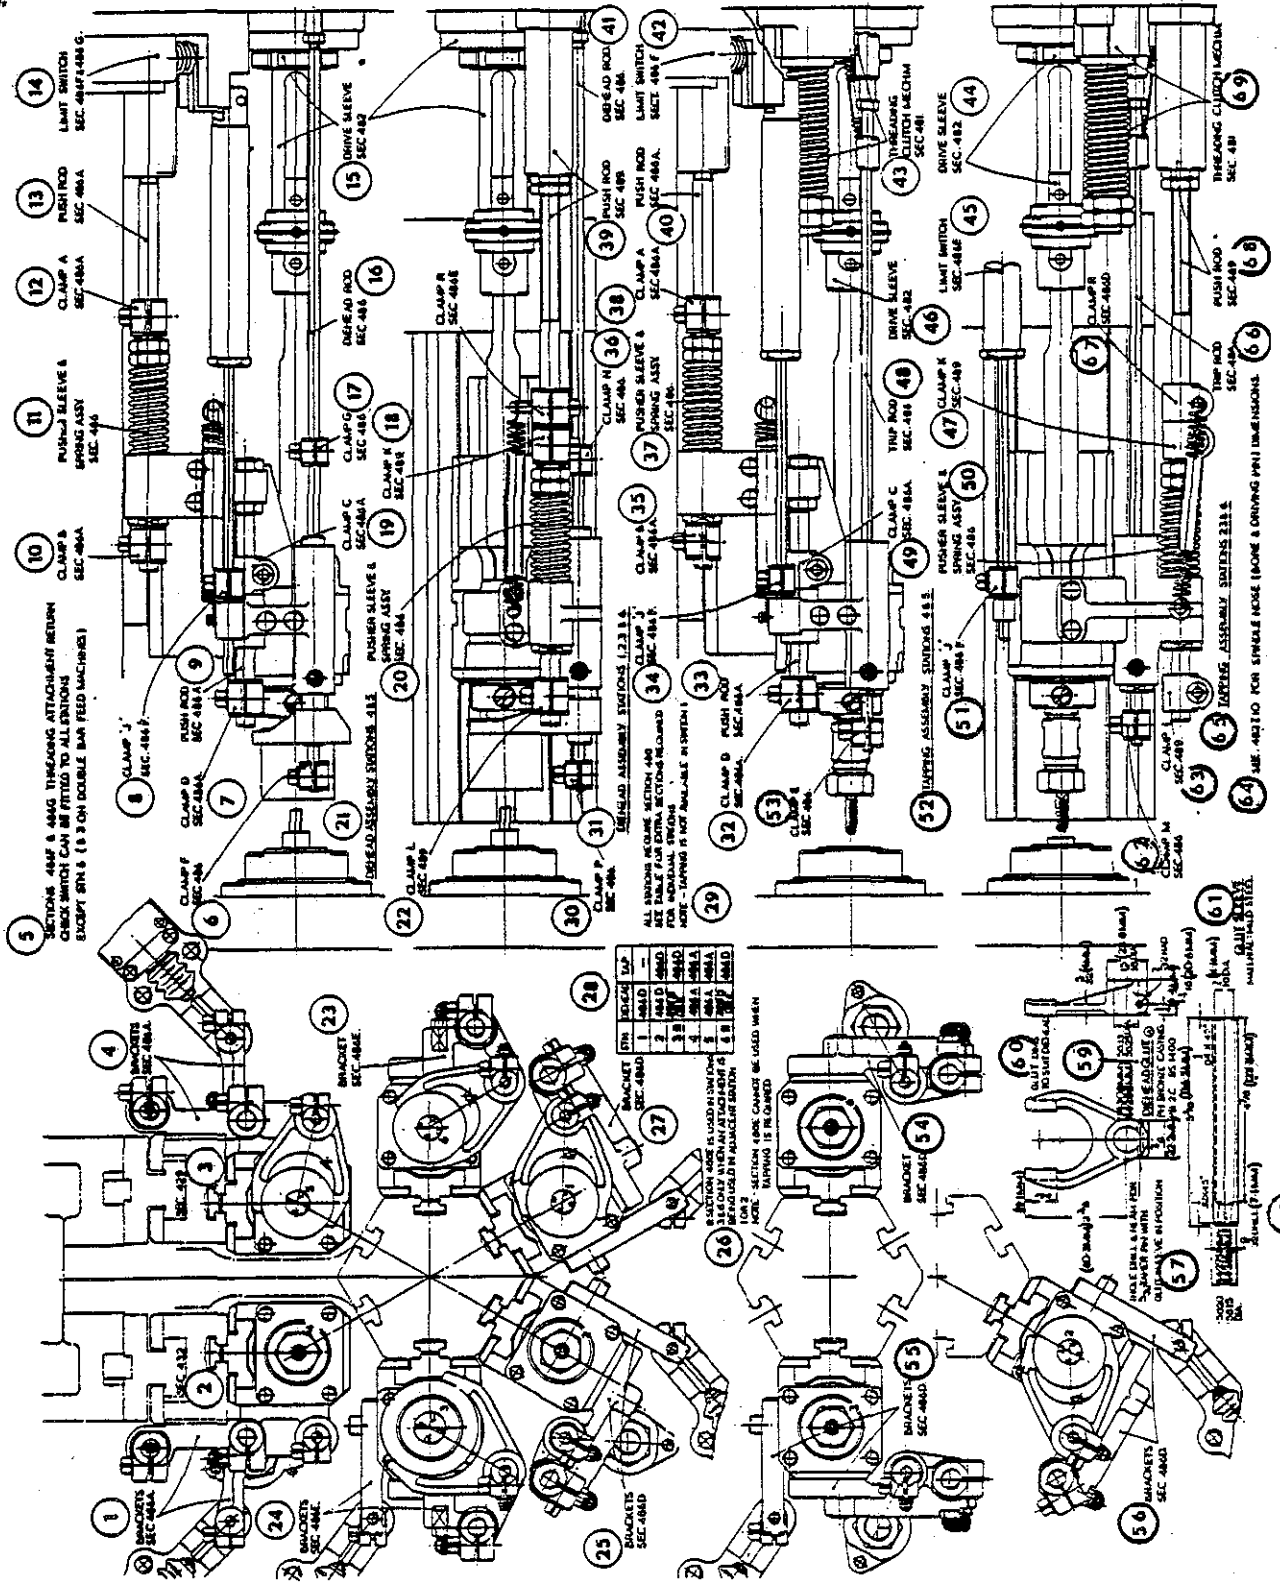

Fig. 47 486 Z 10
IN 4th and 5th STATIONS the trip rods and push rods are fitted as shown in Fig.47; a self opening diehead and floating tap assembly are shown in the illustration.
IN 1st, 2nd, 3rd and 6th STATIONS the trip rods are fitted as shown on Fig.47.
- Key to Fig.47
The following should be read in conjunction with the threading attachment diagrams Fig.47 FOR SELF OPENING DIEHEADS.
The following should be read in conjunction with diagrams Fig.47 FOR SOLID TAPS OR BUTTON DIES.
The following should be read in conjunction with the threading attachment diagrams Fig.47 FOR SELF OPENING DIEHEADS
The following should be read in conjunction with the threading attachment diagrams Fig.47 FOR SOLID TAPS OR BUTTON DIES
Never handwind backwards without either relieving the clamp "A" (see Fig.47) so that the tap or die is clear of the work, or removing the tap or die. When using a self-opening diehead, this may be tripped open in order to handwind backwards.
See Fig.47 Section 486F
When threading takes place without a transfer arm pick-up attachment being used, the check switches are mounted as shown on Fig.47.